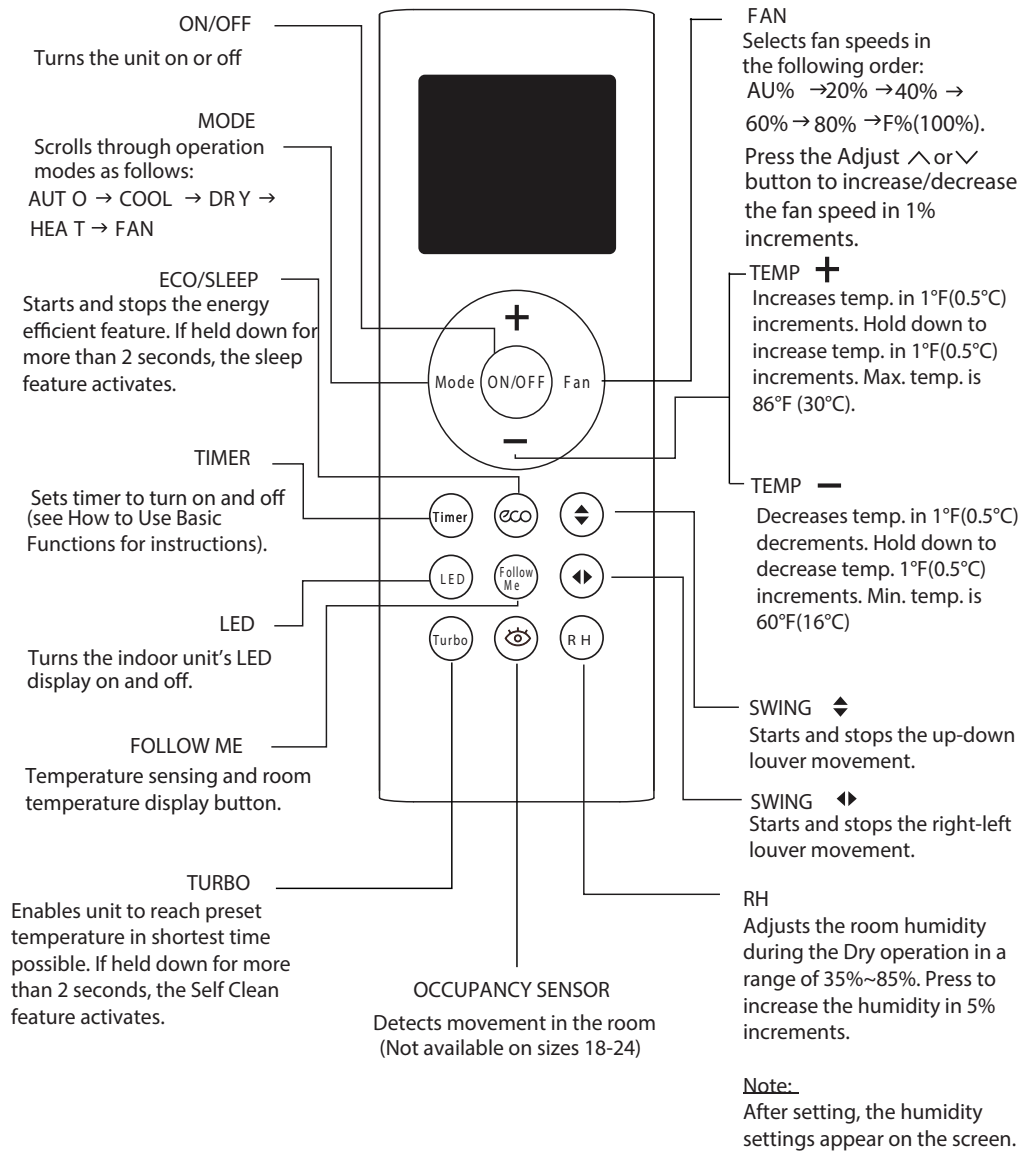

Fig. 3 —Remote Controller
6. Set the airflow direction. When the unit is turned on, the louvers default to the cooling or heating position. The user can adjust the louver position or initiate continuous louver movement by pressing **UP-DOWN Louver SWING**. See Fig. 3 — on page 4).